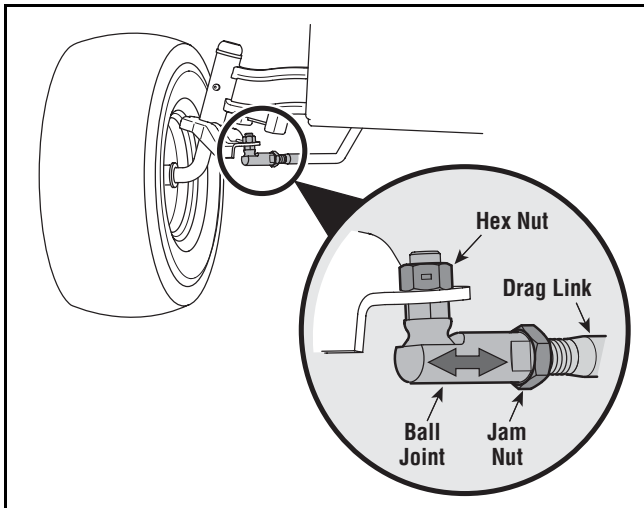

Figure 15
- Loosen the jam nut found on the drag link at the rear of the ball joint. See Figure 15.
- Remove the hex nut and lock washer on the top of ball joint. See Figure 15.